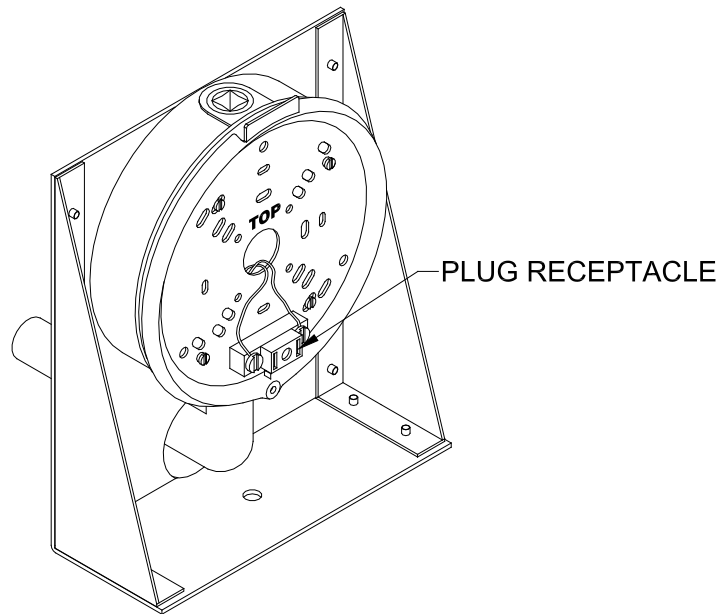

Figure 12 Plug Receptacle Wire Attachment
14. Crimp forked terminals on the ends of the two wires and attach them to the plug receptacle seen in figure 12.